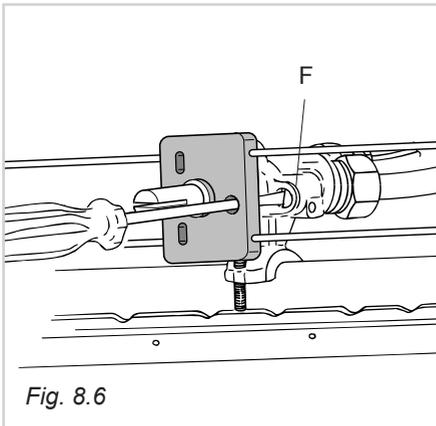

Fig. 8.6
The burners in the cooktop are fitted with safety valves; the minimum flame regulation screw is located on the outside of the gas tap (fig. 8.6).
- With a thin screwdriver pass by the hole of microswitch and turn the screw **F** until adjustment is correct (fig. 8.6).